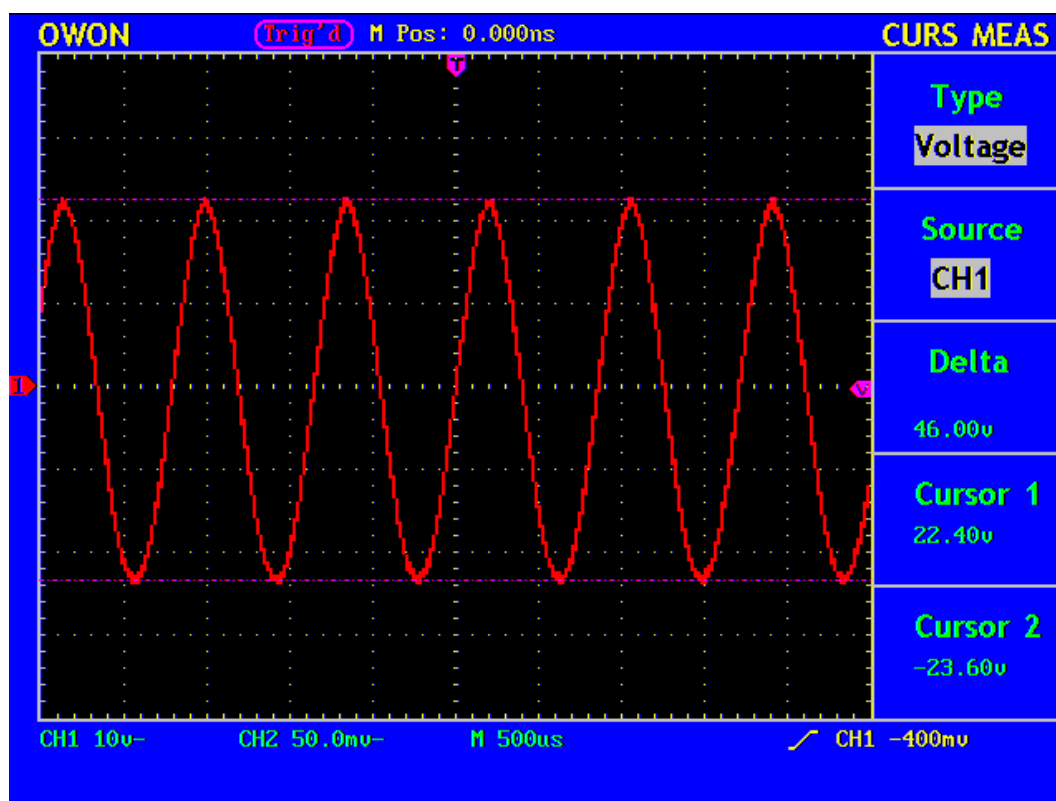

Fig. 51 Wave Form of Voltage Cursor Measurement
4. Adjust the positions of **CURSOR1** and **CURSOR2** according to the measured wave form, with the absolute value of the voltage amplitude difference between Cursor 1 and Cursor 2 displayed in the increment window. The current position of Cursor1 is displayed in the Cursor1 window and that of Cursor2 is displayed in the Cursor2 window (see Fig. 51).